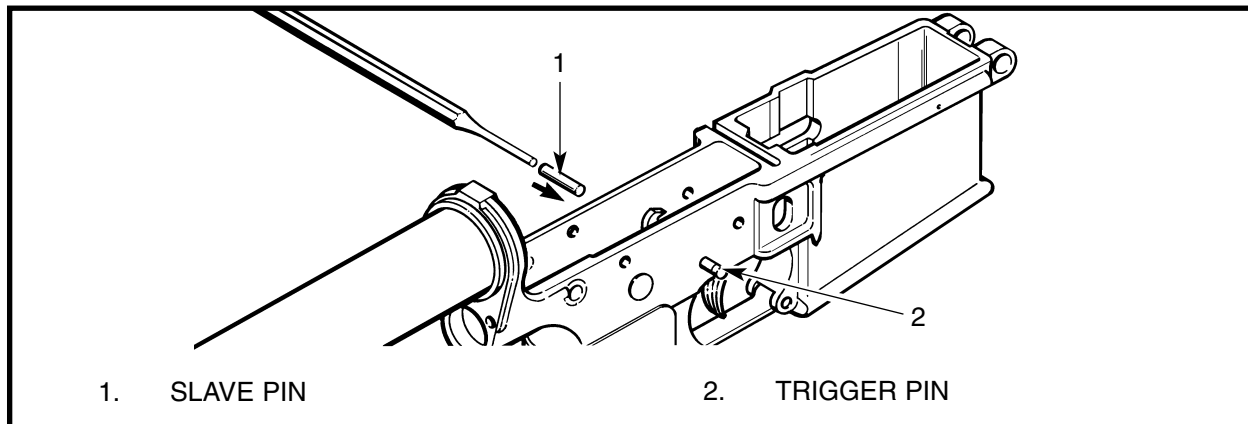

Figure 3-2-47 Removing the Trigger Mechanism
- (1) See Figure 3-2-47. Insert a slave pin (1) from the left side of the receiver, to displace the trigger pin (2);